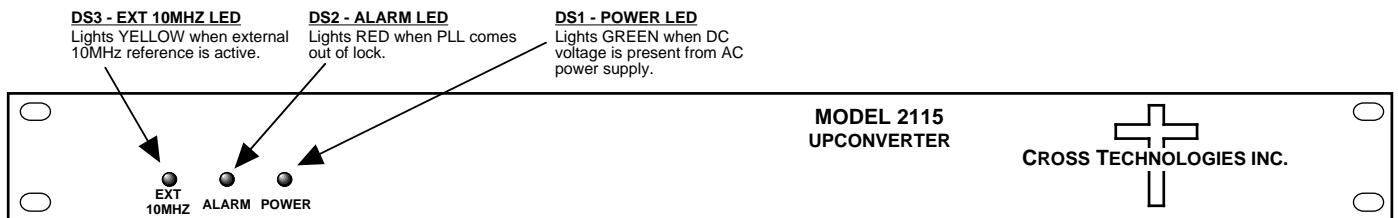

FIGURE 2.2 2115-21-202 Front Panel Controls and Indicators
5. Be sure DS1 (green, DC Power) is on and DS2 (red, Alarm) is off (Figure 2.2).
7. If EXT is selected or AUTO is selected and there is a 10MHz, 3 dBm signal at J2, check that DS3 (yellow, Ext 10MHZ) is on (Figure 2.2).